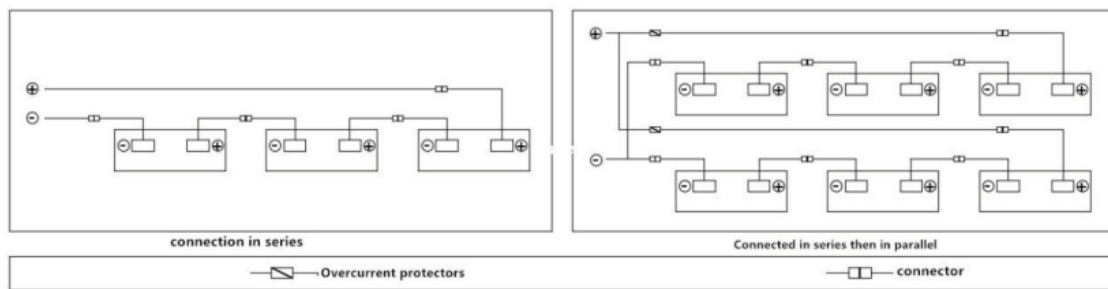

Figure 6-1 Series-parallel electrical diagram
- When Sunshine MH products are connected in series, the total voltage is the sum of the voltage of every single Sunshine MH product in the string, and when Sunshine MH products are connected in parallel, the final current is the sum of the current of every string of Sunshine MH products, as shown in Figure 6-1. Sunshine MH products of different electrical performance models should not be connected in one string.